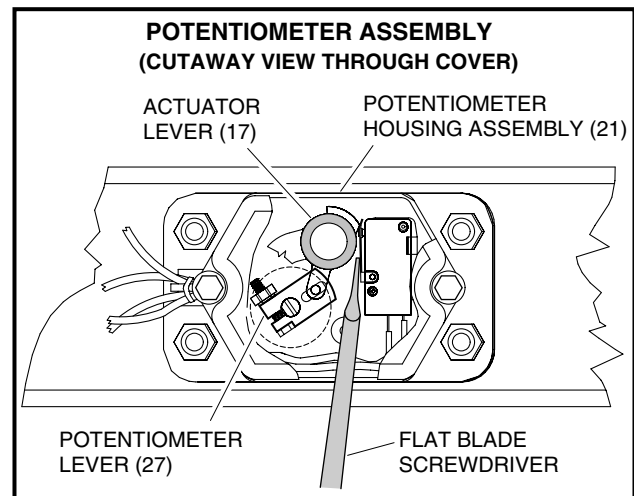

Figure 5-29 Potentiometer Assembly
4. Rotate the potentiometer lever (25) clockwise until lever fork is at the two o'clock position (**Figure 5-29, Page 5-21**). The lever must be at approximately two o'clock in order for it to mate with the alignment pin on the actuator lever.
5. Rotate the actuator lever until its alignment pin is aligned with the slot in the potentiometer lever fork (Figure 5-29, Page 5-21), then slide the actuator lever toward the potentiometer housing. **See following CAUTION.**
- DO NOT BEND THE LIMIT SWITCH LEVER. THE CAM ON THE ACTUATOR LEVER SHOULD BE AT THE TWO O'CLOCK POSITION WHEN THE ACTUATOR LEVER IS IN POSITION TO MATE WITH THE POTENTIOMETER LEVER, ALLOWING THE ACTUATOR LEVER TO SLIDE PAST THE LIMIT SWITCH LEVER. IT MAY BE NECESSARY TO HOLD THE LIMIT SWITCH LEVER BACK WITH A FLAT BLADE SCREWDRIVER (Figure 5-29, Page 5-21).